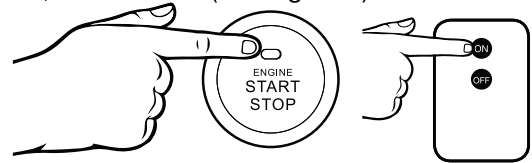

Figure 9 - Push Button Start/Remote Start
6. Push and hold the push button start for 1 second, then release. If using remote start then hold down **START** on the remote key fob until the generator starts, then release (see Figure 9).